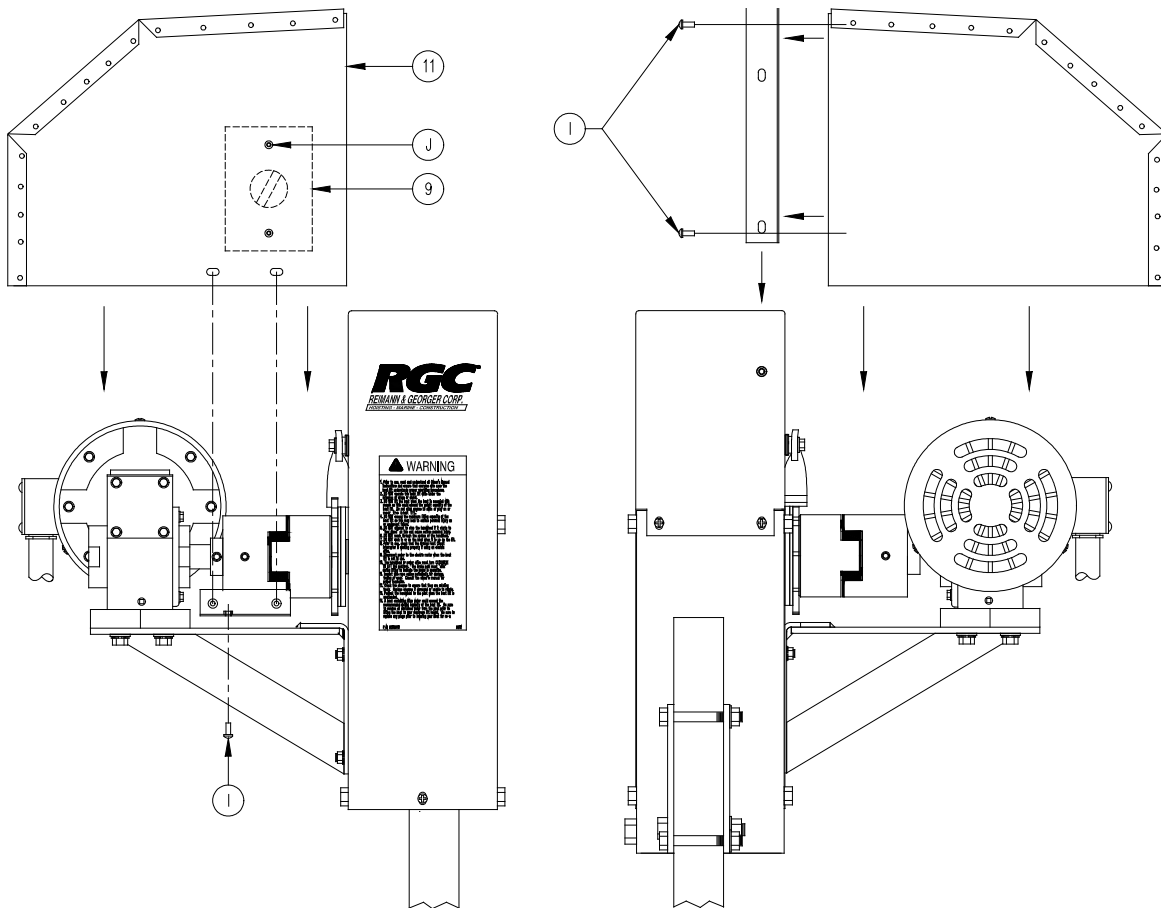

Figure 2-4
1. Refer to Figure 2.4, Using a #2 Phillips screwdriver, fasten the long winch mounting bracket to the backside of guard with 1/4 -20 x 1" machine screws.